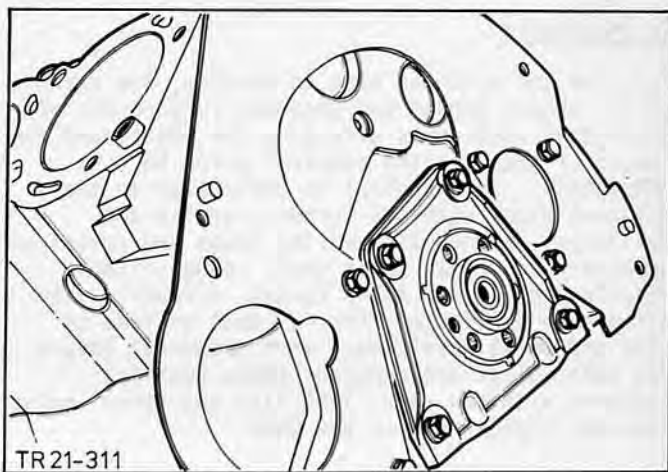

Fig.39. Oil seal carrier with intermediate plate.
28. Remove oil seal carrier (4 bolts) and intermediate plate (5 bolts) at rear of engine, Fig.39.